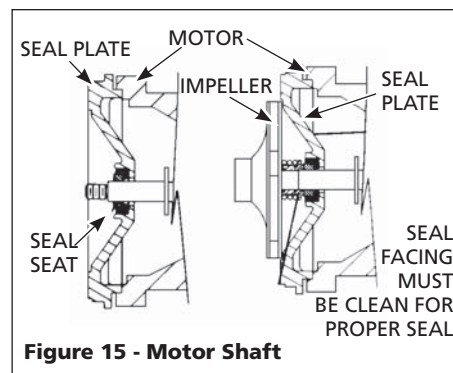

Figure 15 - Motor Shaft
4. Position impeller on shaft and tighten securely (Figure 15).